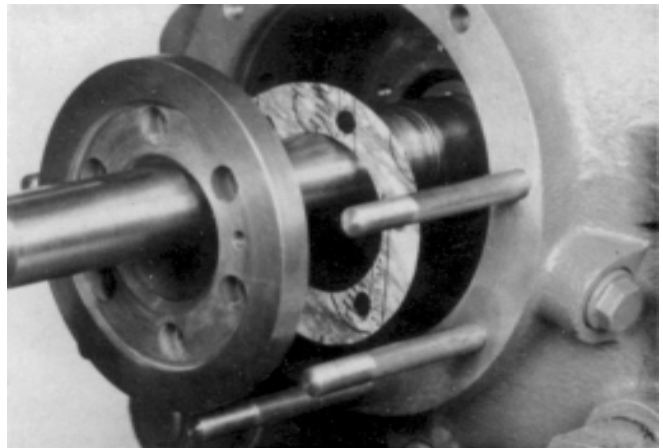

Fig. 63 Insertion of counter balancing disc.
- b. Mount counter balancing disc (602) with flat gasket (400.1) in discharge casing (107) and tighten the allen head screws very firmly. (see Fig. 63 and 64)
- c. Insert key for balancing disc (601) in shaft (210).
- d. Slip balancing disc (601) onto shaft (210) and onto the key. In the case of pump size 150, first mount spacer sleeve (525.2).